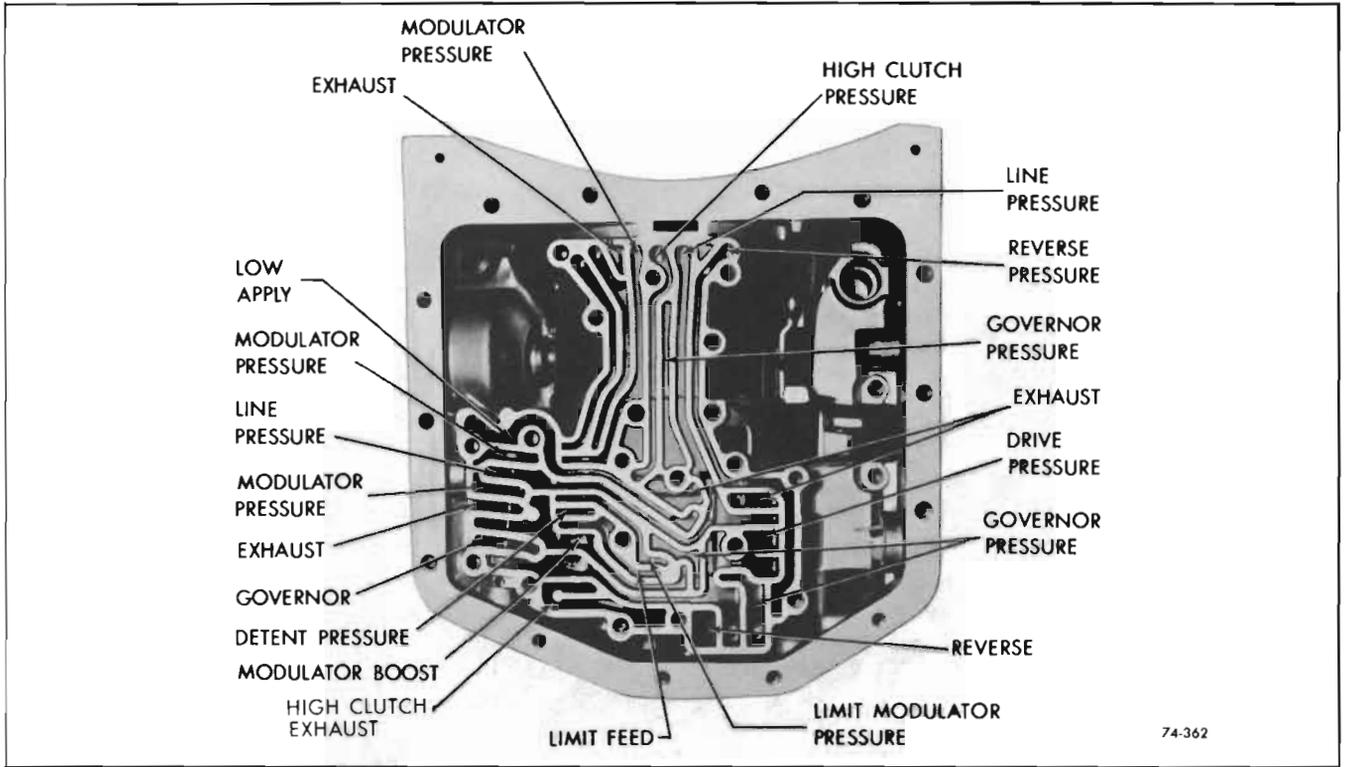
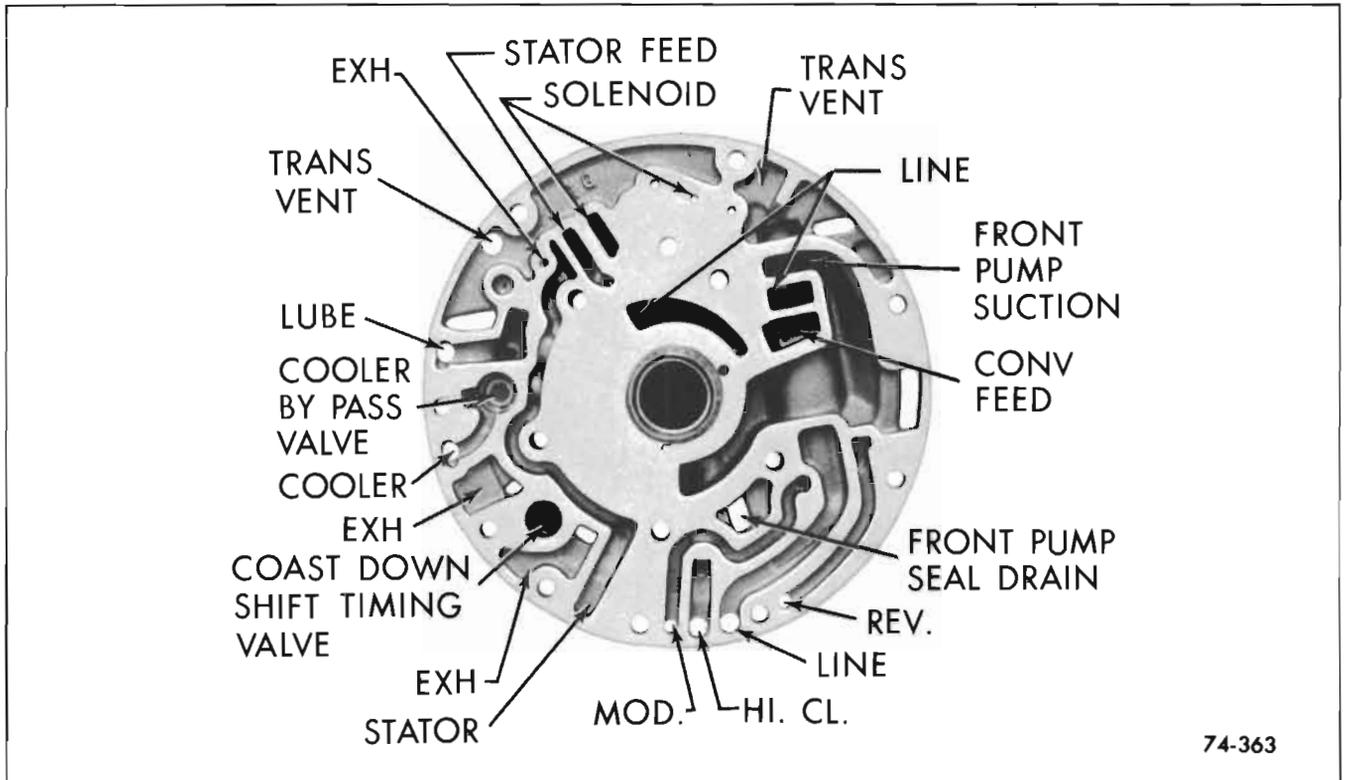

Figure 74-362—Oil, Passages in Bottom of Transmission Case
Figure 74-363—Oil Passages in Pump Cover
V. No Reverse	<ul style="list-style-type: none"> a. Check reverse clutch piston seals. b. Check freedom of reverse clutch piston. c. Check for open feed lines to reverse clutch. See Figures 74-362 through 74-368. d. Loose oil channel support plate attaching bolts. Specification is 8-12 lb. ft.
IX. Long Shift Time--Shift Does Not Have Positive Engagement	<ul style="list-style-type: none"> a. Check for proper modulator can assembly. See paragraph 74-1. b. Check for leak in clutch circuit. See Figures 74-362 through 74-368. c. Check valve body port between modulator boost and clutch feed in shift valve bore. See Figure 74-368. d. If foreign material in oil pan indicates a clutch failure, replace clutch plates and necessary parts.
XVII. Oil Spews Out Breather	<ul style="list-style-type: none"> a. High oil level. b. Water in oil. c. Chip or burr between pump cover and housing or between complete pump assembly and case. d. Direct leak from front pump pressure line into vent chamber. See Figure 74-363.
XVIII. Drive Clutch Plates Burned (Usually Low Band and Reverse Clutch Good)	<ul style="list-style-type: none"> a. Check for leakage in clutch circuit. See Figures 74-362 through 74-368. b. Check ball in forward clutch drum. c. Clutch lines in front pump cover and stator shaft assembly. See Figure 74-363. d. Plug in pump cover assembly missing. See Figure 74-369. e. Clutch piston seals. f. Clutch feed oil rings. g. Check for proper number of clutch plates and correct piston. See Chart on page 74-3.